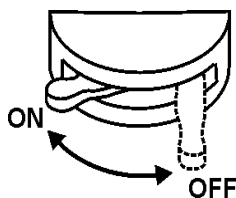

Figure 43. Battery ON/OFF Switch
6. Set the **battery ON/OFF switch** (Figure 43) to the “ON” position.